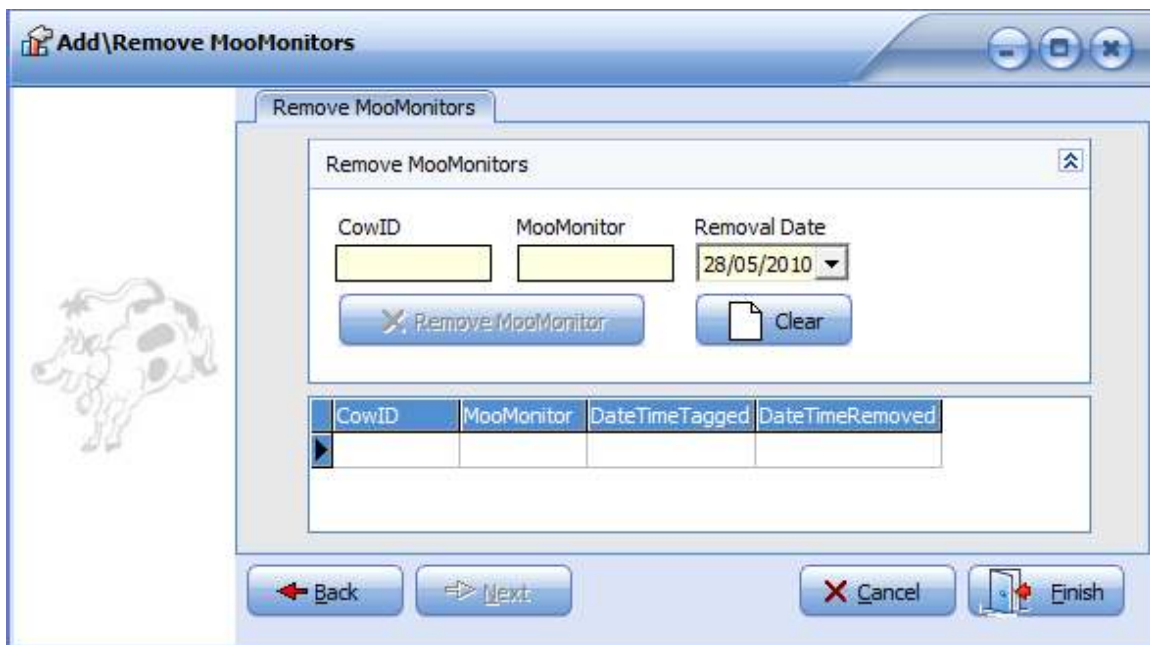

Figure 43 Remove MooMonitors screen.
- d. The screen shown in Figure 43 below is displayed.